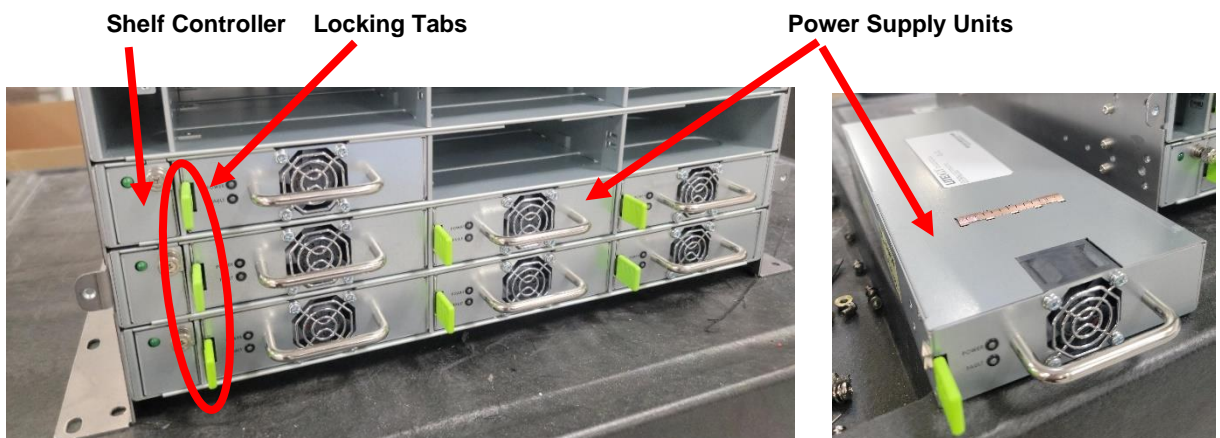

Figure 24—Install Power Supply Units with Locking Tabs closer to Shelf Controllers
5. Insert 9 power supply units (PSUs), 3 on each shelf (Figure 24), so that locking tab side of each PSU is closer to its shelf controller than the PSU's other side AND so each locking tab clicks into the locked position.